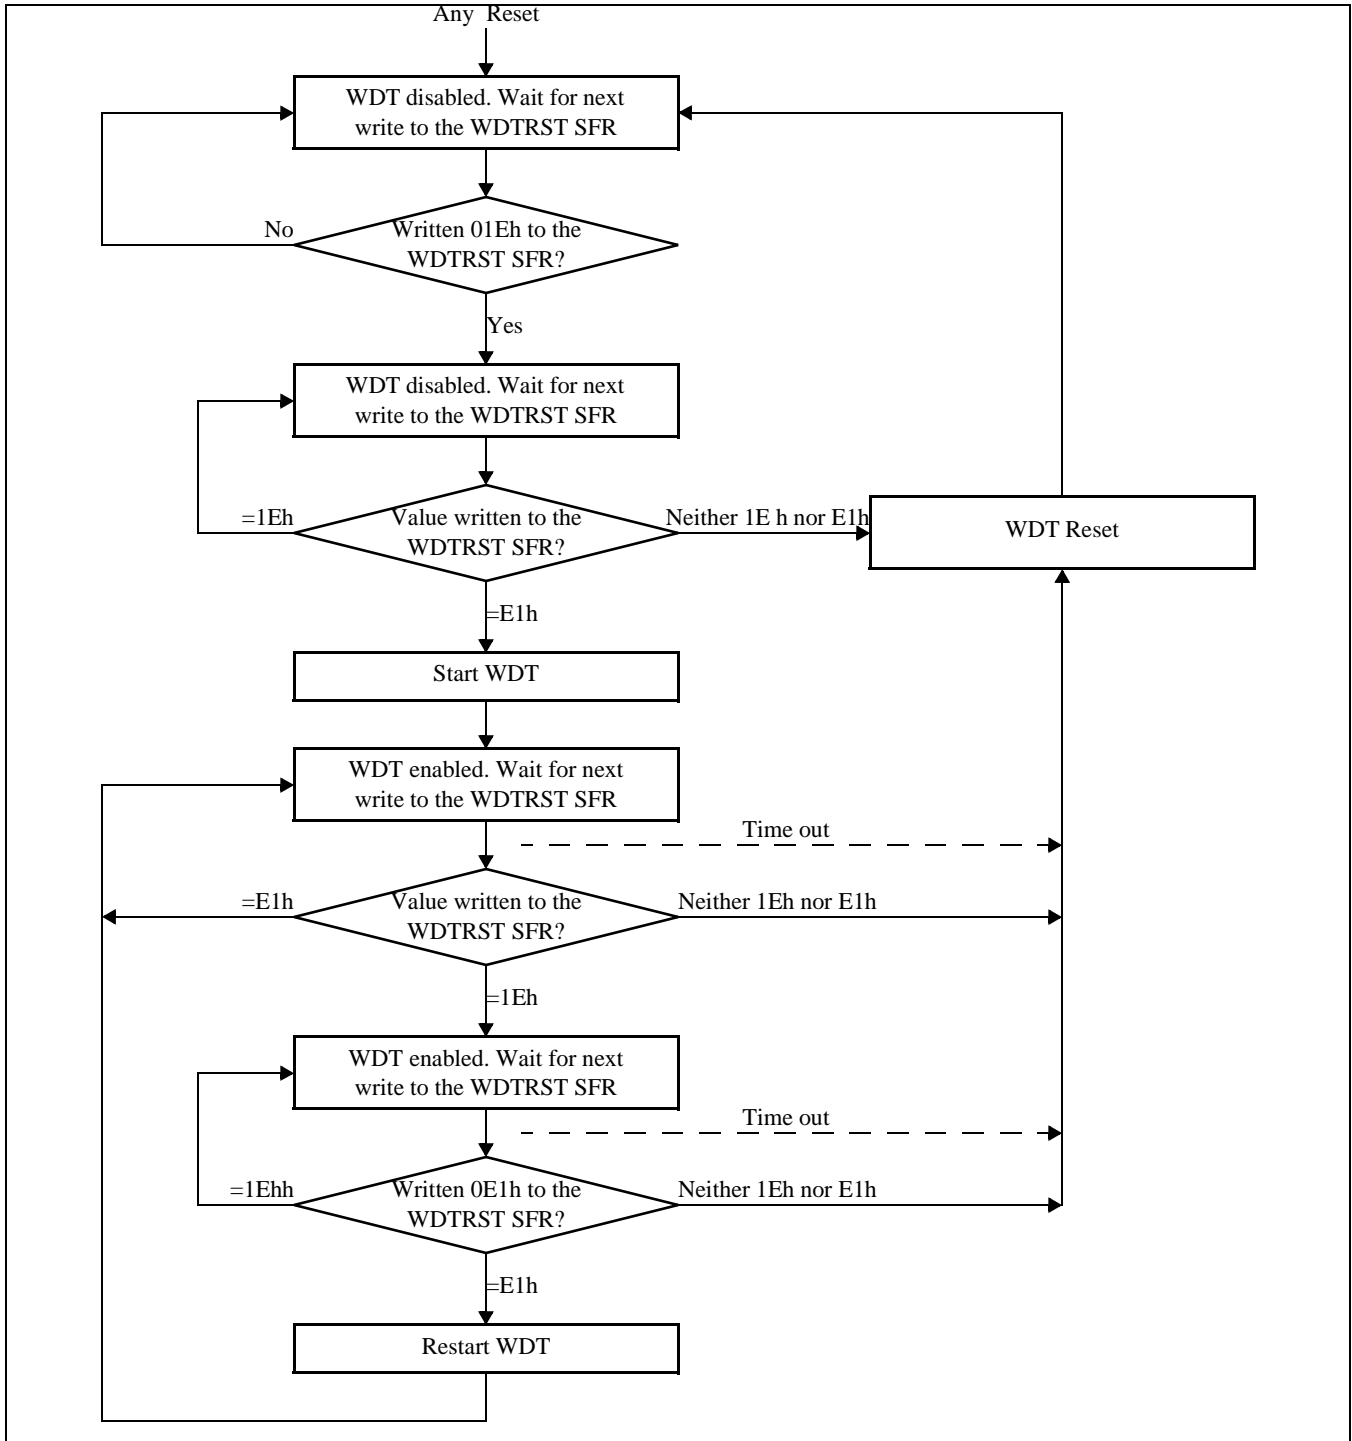

Figure 49: Watchdog Timer State Transitions
- Refer to Figure 49 for details of WDT operations, including effects of illegal feed patterns to the WDTRST SFR.